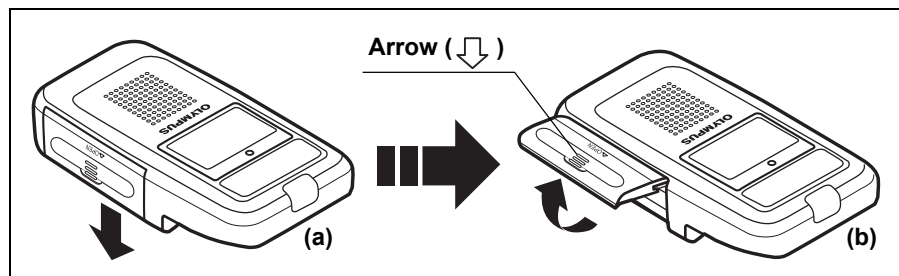

Figure 5.20
1. Open the battery pack slot cover by sliding it in the direction of the arrow (see Figure 5.20 (b)).